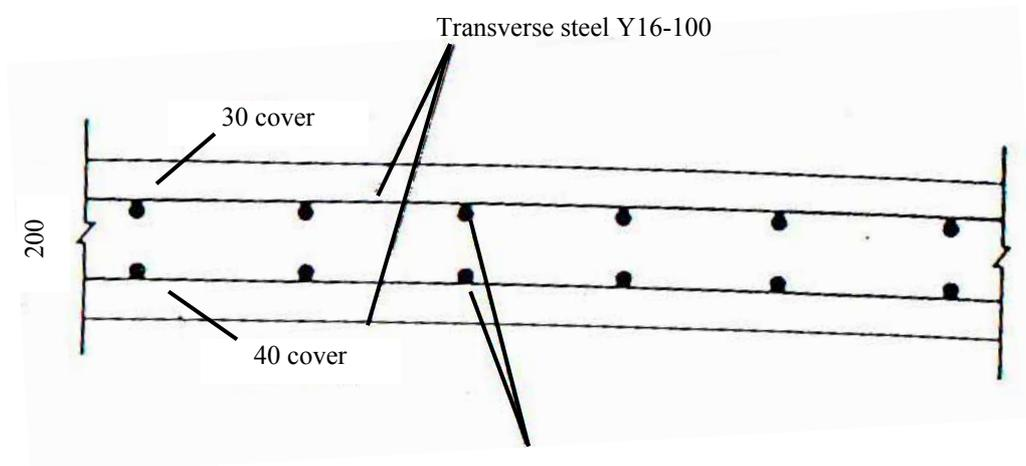

Figure 4
5. Figure 4 shows the top slab of beam and slab bridge which has been designed at the ultimate limit state. The characteristic strengths of reinforcement and concrete are 425 and 30 N/mm², respectively. The local bending moments and global effects at mid-way between the beam are given in Table 1. The effects due to HB include those due to associated HA. Check the requirement of slab to satisfy the serviceability limit state criteria under load combination 1.